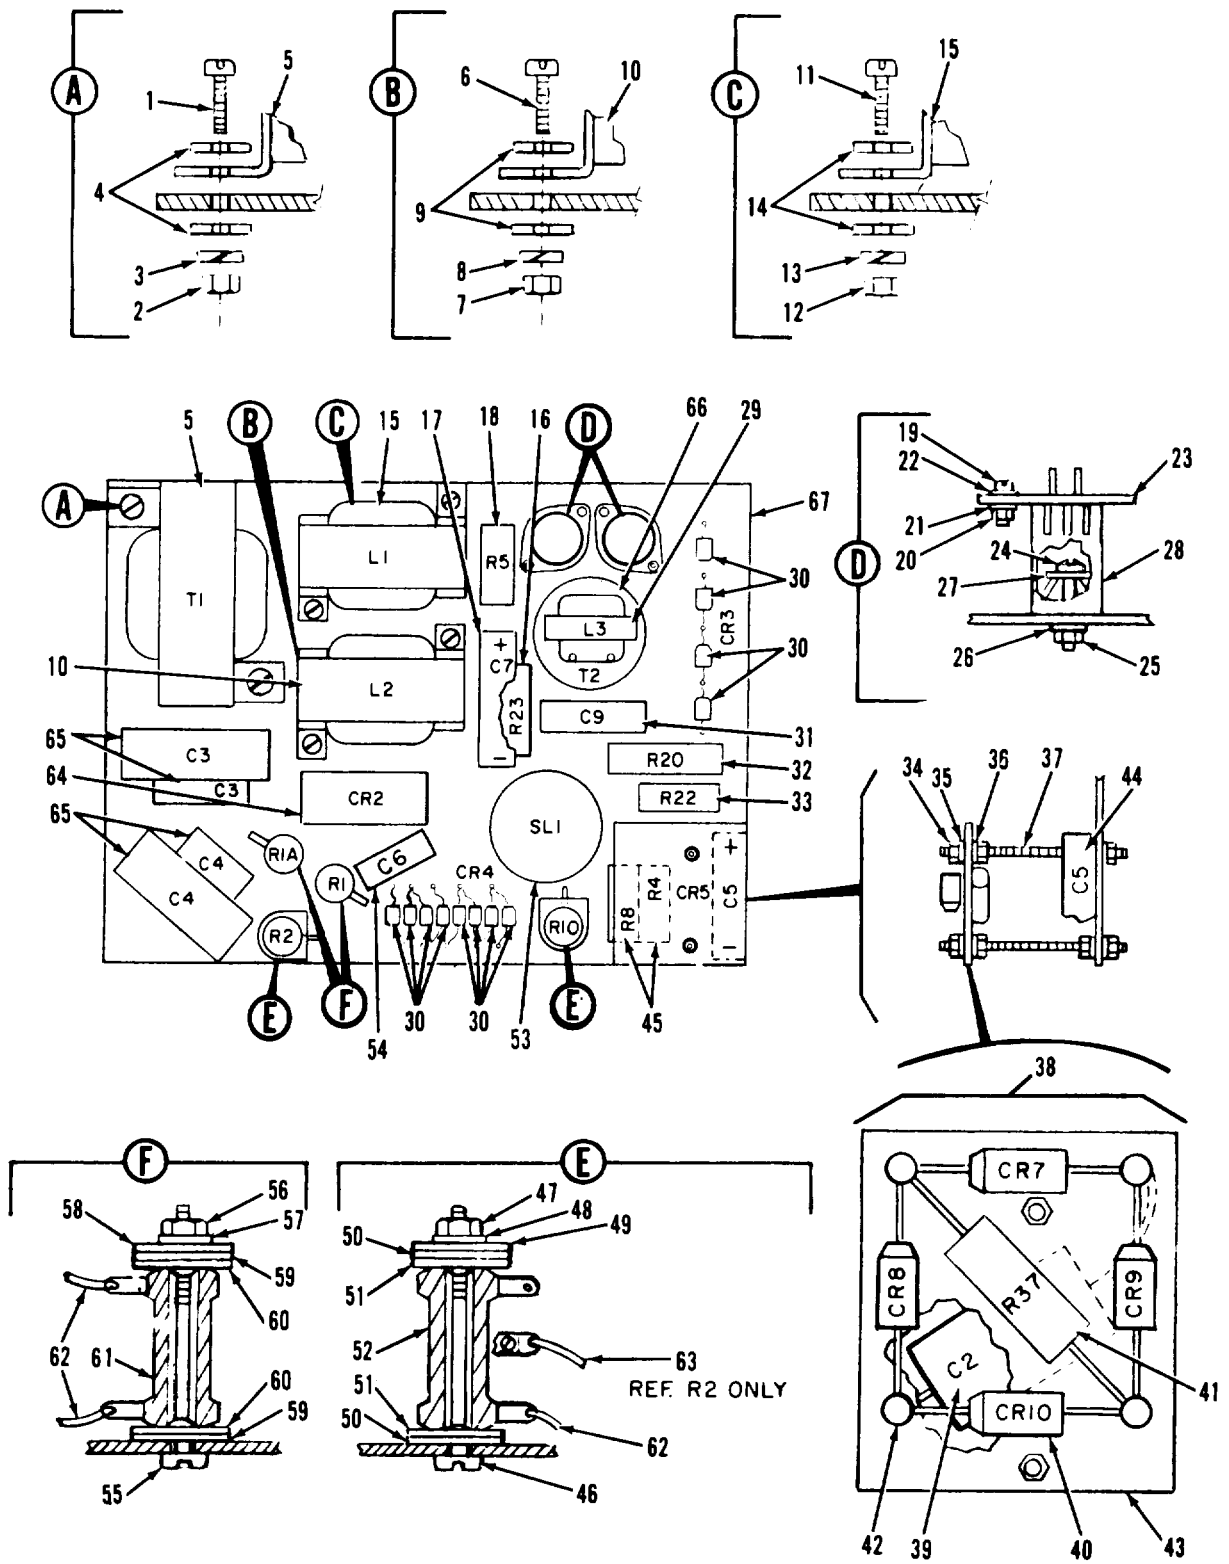

Figure 6-57. Precise governor control unit (A23), printed wiring board assembly
b. Refer to figure 6-57 and disassemble the governor printed wiring board assembly to the extent necessary to accomplish repair. Pay particular attention to the following:
a. Refer to figure 6-57 and reassemble the precise governor printed wiring board. Pay particular attention to the following.
Legend to figure 6-57: